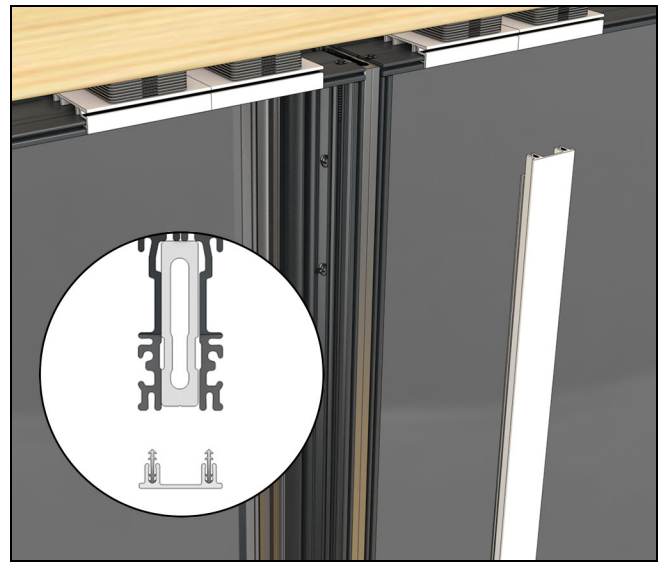

Figure 11
5. Apply the interior aluminum covers. These are barbed on and can be seated with a rubber mallet. Make sure the covers are flush to the interior accessory kerf. See Figure 11.